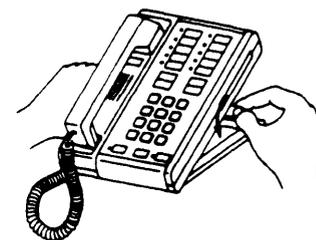

Figure 3
4. The angle of the stand can be adjusted (see Figure 3) by performing the following: